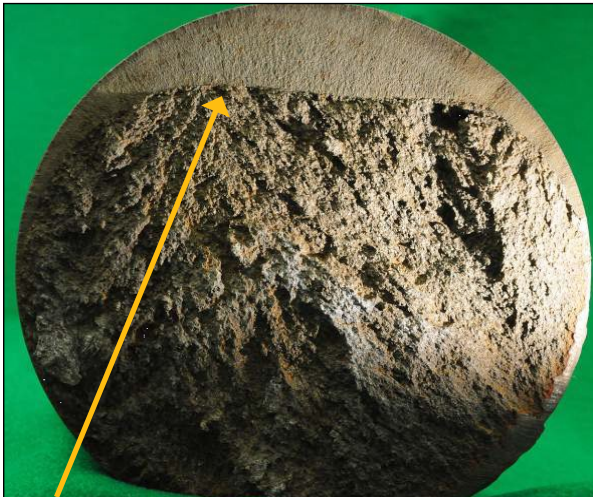

Figure 3: Arrow showing where the failure point started at the top section of the center column.
- The fractures appeared inside of the columns (see Figure 3, next page) and the columns were behind welded coverings; therefore, inspection of these locations was not possible without taking the press apart.